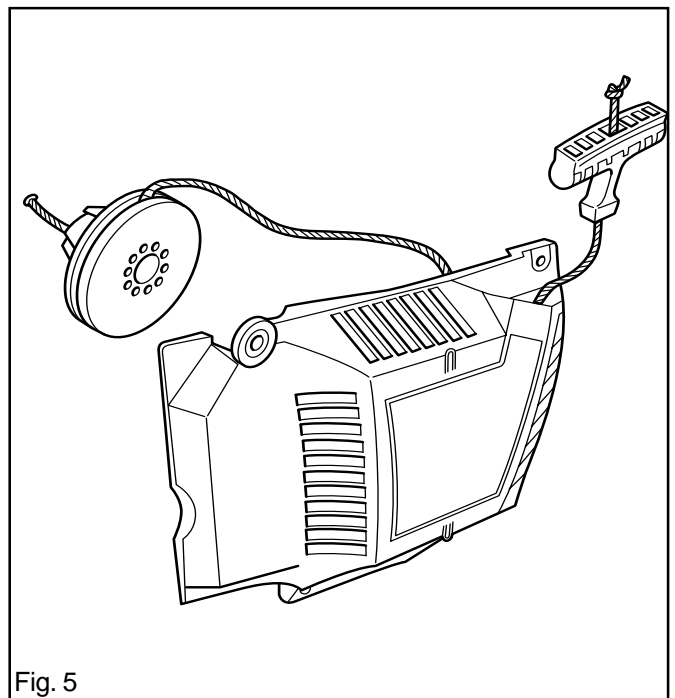

Fig. 5
3. If a new cord is to be fitted, push the free end in the hole in the starter pulley. Take hold of the end with pointed pliers inside the pulley and pull up the cord. See fig. 5.
6. Pull out the cord through its hole in the housing and fit the handle and secure it with a double knot. See fig. 5.